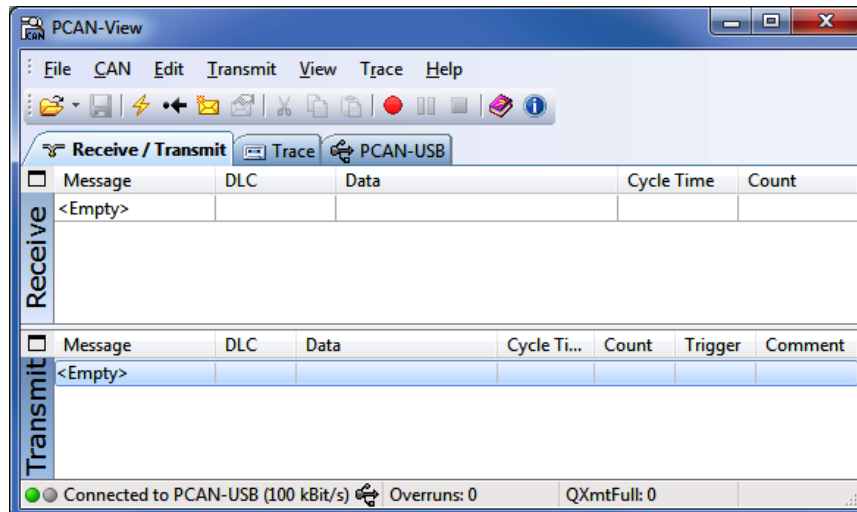

Figure 25 • PCAN-View
6. Launch the **PCAN-View** software. The **PCAN-View** window is displayed as shown in Figure 25.